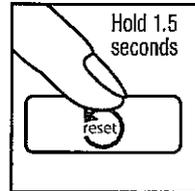

Fig. 38
- Press the filter clean indicator reset button and hold down for 1.5 seconds to reset the timer after cleaning (Fig. 38).